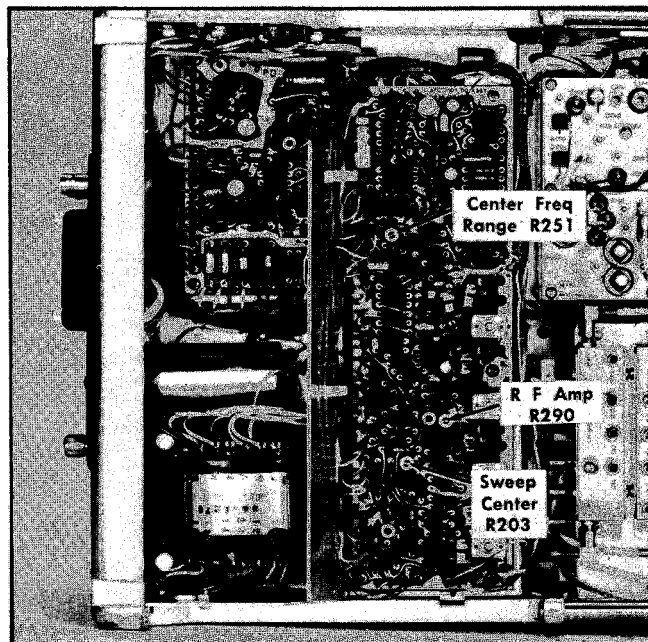

Fig. 6-18. Sweeper circuit adjustments.
e. Adjust the RF Ampl R290 (see Fig. 6-18) for  $-0.85$  volts  $\pm 0.1$  volt of trace deflection on the test oscilloscope.
b. Adjust the Center Freq Range R251 (Fig. 6-18) for minimum IF signal shift as the DISPERSION selector is rotated through the 10 MHz to the .2 MHz positions. The DISPERSION RANGE switch must be in the MHz/DIV position for this adjustment.
- Adjust the Sweep Center R203 (Fig. 6-18) to position the 200 MHz signal at the graticule center horizontal line.